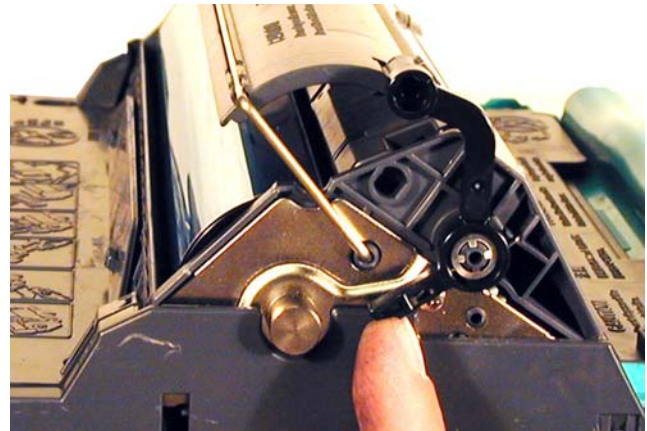

Figure 68
54) Make sure the drum cover opens properly. See **Figure 68**